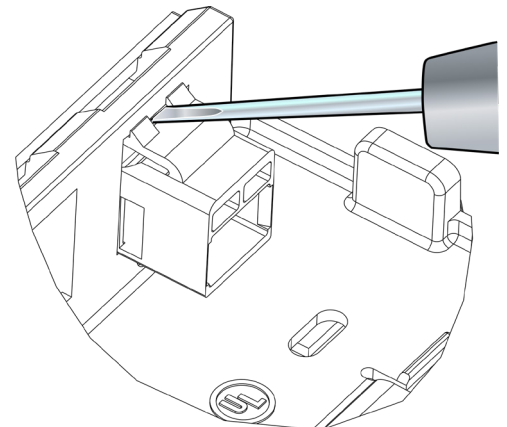

Figure 13
1. Place the tip of a small screwdriver under the movable latch of the LC Duplex Adapter, then pry the tip downward slightly until the latch partially disengages. See Figure 13.